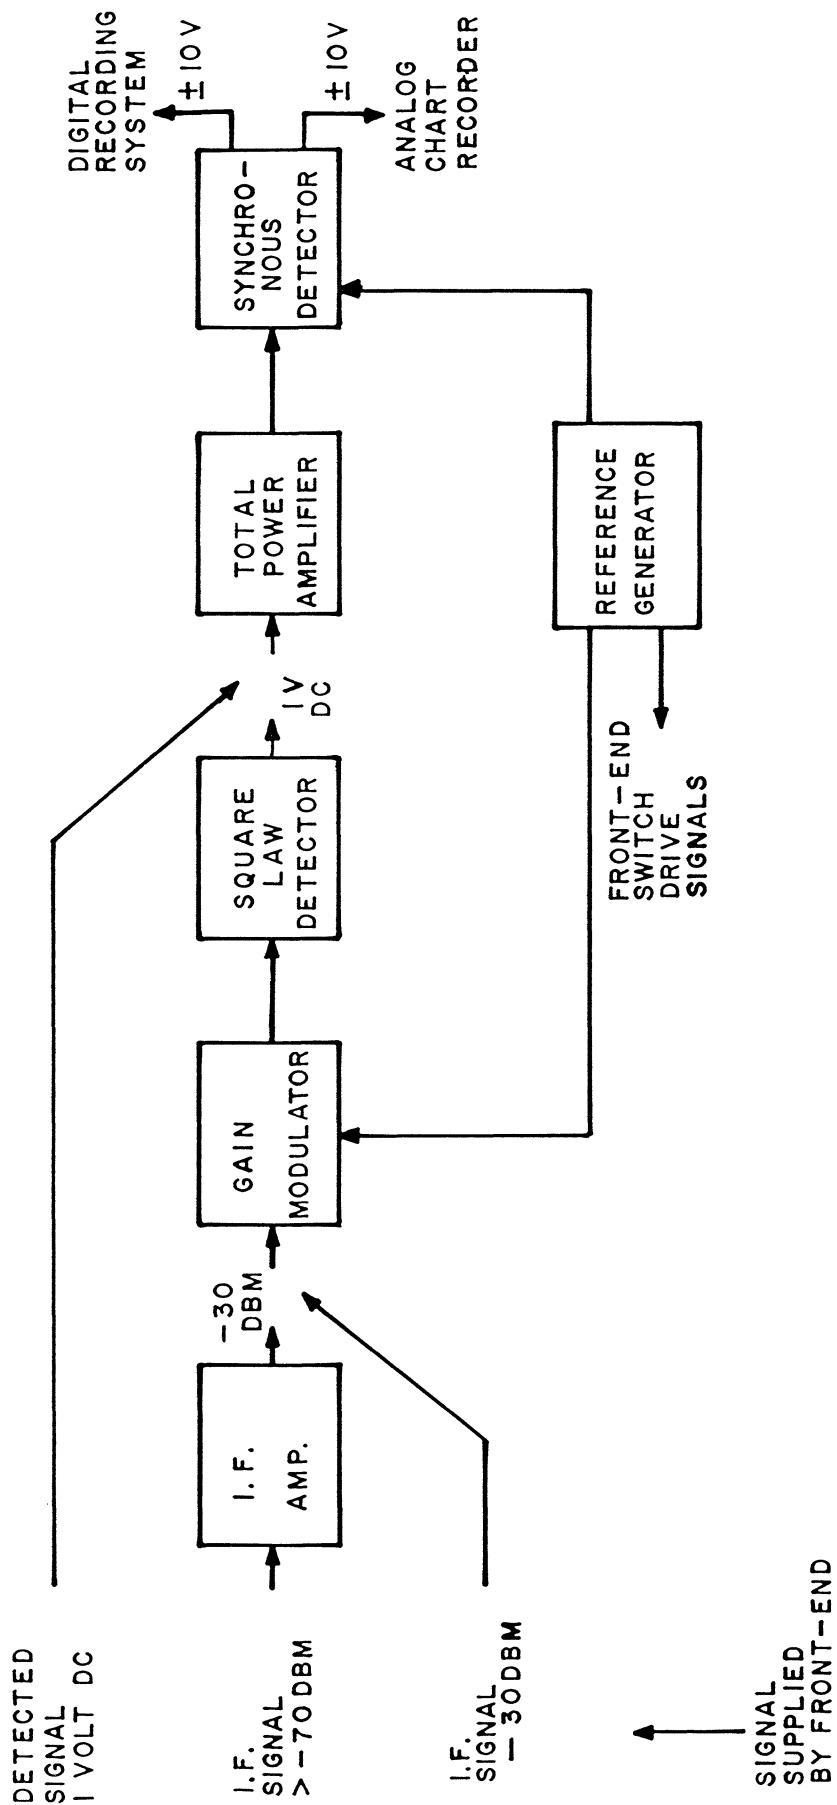
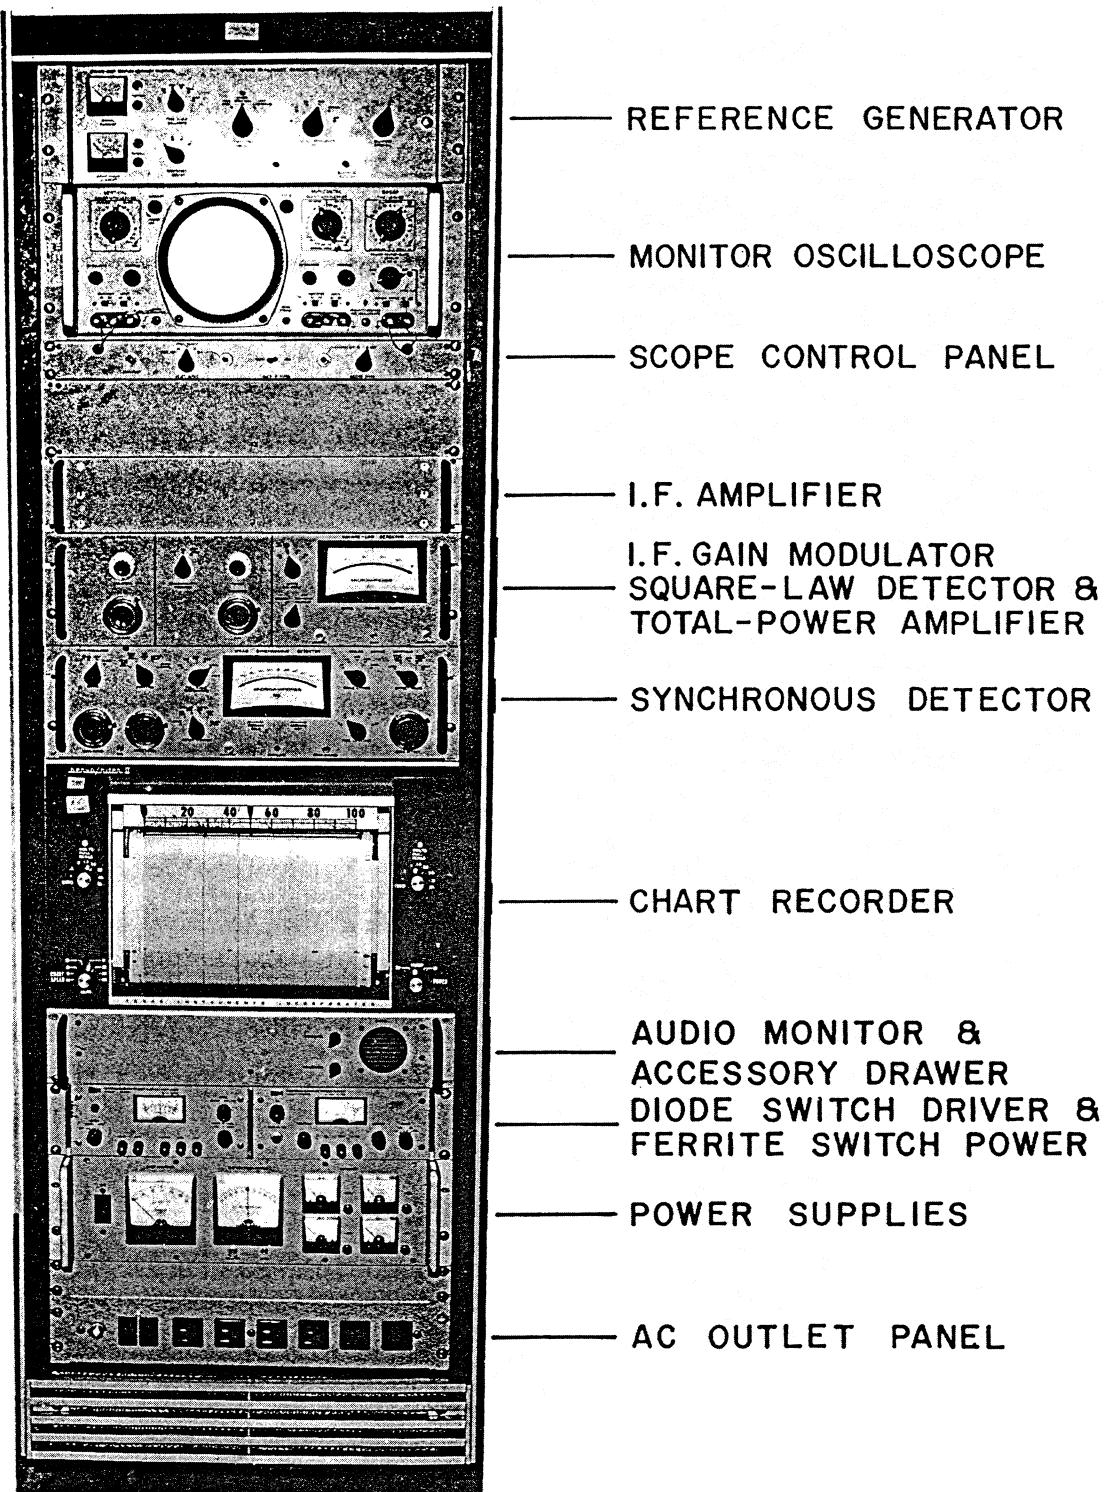

Figure 1 — Standard Receiver Block Diagram
Figure 2 — NRAO Standard Receiver
A block diagram of the receiver is shown in Figure 1 and a photograph is shown in Figure 2. The receiver can accept input signals of 3 types:
- 3) Switching transients can be "blanked" out after detection. The blanking operation can be performed by keeping the synchronous detector switch in a middle or "dead band" position for a short instant of time after each square-wave transition. The capacitor (in Figure 1) holds the previous voltage value and no "hole" is put in the output signal during the blanking interval.